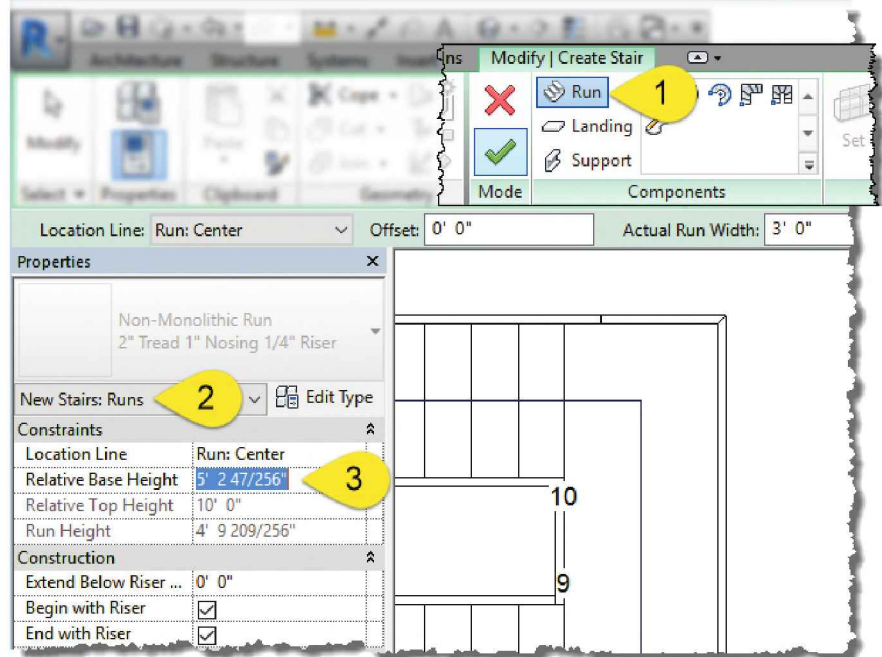

FIGURE 5-3.20 Adding an extra stair run from an intermediate landing
- Select the **Run** command on the Ribbon (Step #1, Fig. 5-3.20)
- Switch the *Properties Palette* drop-down to **Run** (Step #2, Fig. 5-3.20)
- Paste the landing height into **Relative Base Height**; **CTRL + V** (Step #3, Fig. 5-3.20)